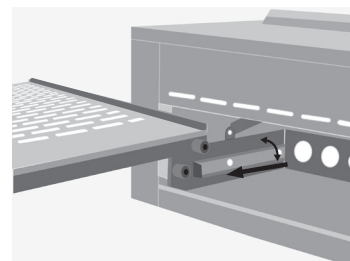

Figure 3
2. Lift the drawer upward with rear end angled up to unlock the wheels from tracks. (See Figure 3).
2. Allow wheels to set into slots in the rear of railings for secured position. (See Figure 3).